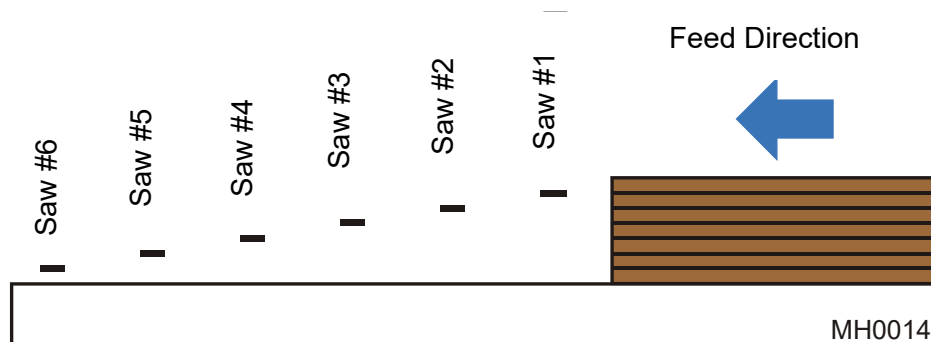

FIG. 2-15
**See Figure 2-15.** The sixth saw head (the last one the material will pass through) should be adjusted to 12.5 mm (0.5") above the feed track. The fifth head should be adjusted to 26.5 mm (1.04") above the track, the fourth head to 40.5 mm (1.6"), etc....